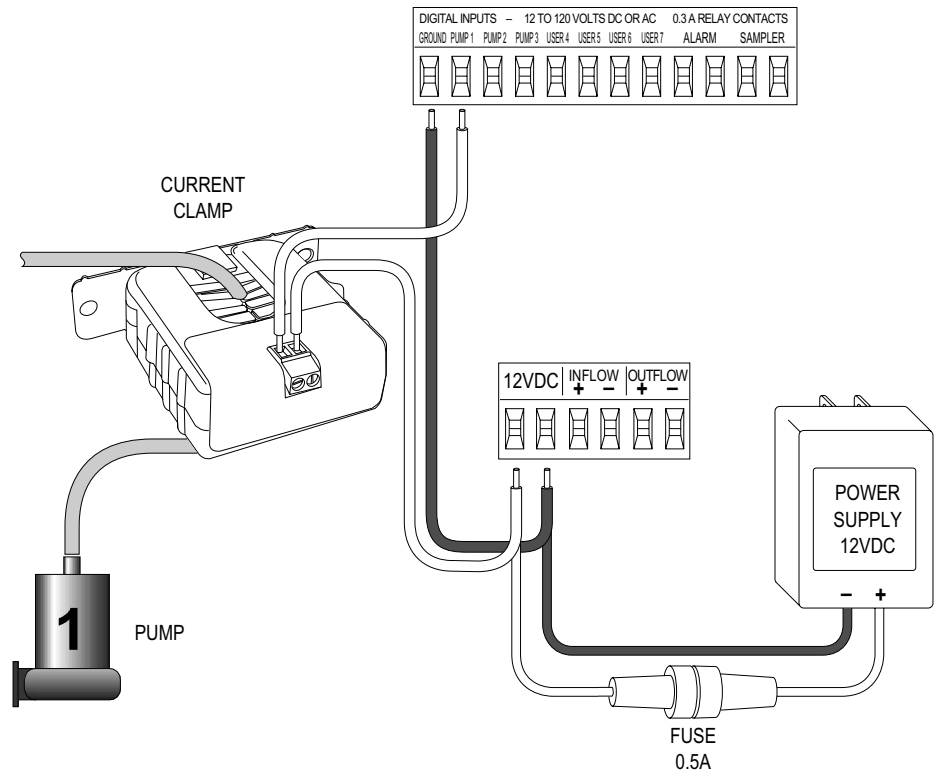

Figure 2-3 Connecting a Single Current Clamp
2. Connect one side of the sensor's terminal to the 4501's 12 VDC power and the other terminal to the corresponding pump input on digital input terminal. See Figure 2-3. The connections on the current clamp are not polarity-sensitive.